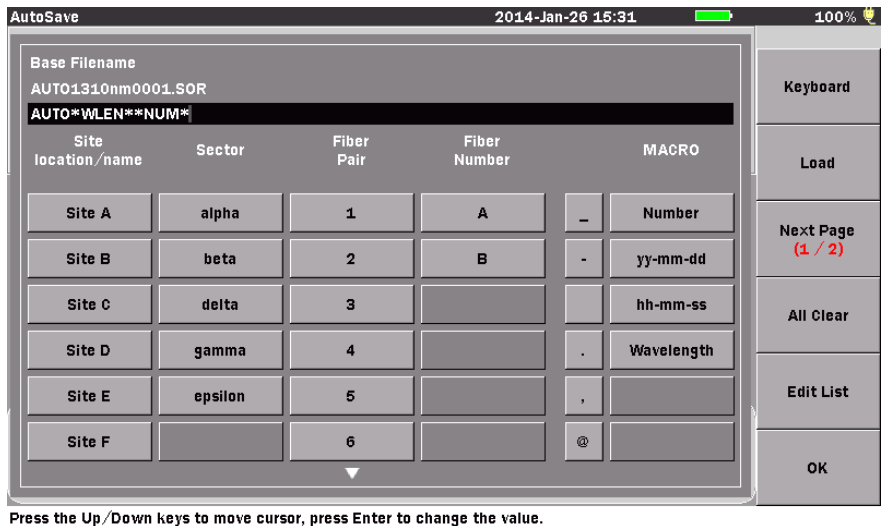

Figure 5-7: Base Filename Screen – File Name dialog box
1. Use the **Up** and **Down Arrow keys** (or the **Rotary knob**) to highlight **Base Filename** and then press the **Enter key**. The Filename dialog box/dialog box appears (see Figure 5-7, below). If no USB keyboard is connected, refer to “Renaming a File” on page 3-32 to input the file name.